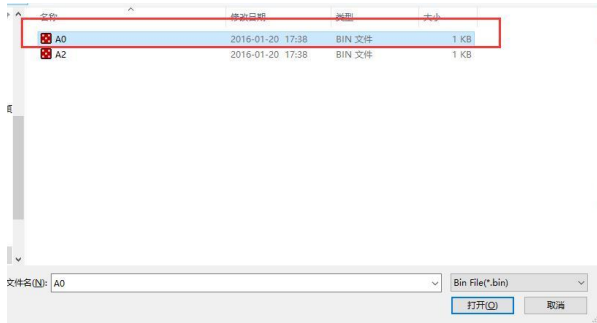

Figure 12
3.1.2 Click “Export BinFile” to import the A0 bin (Figure 12)